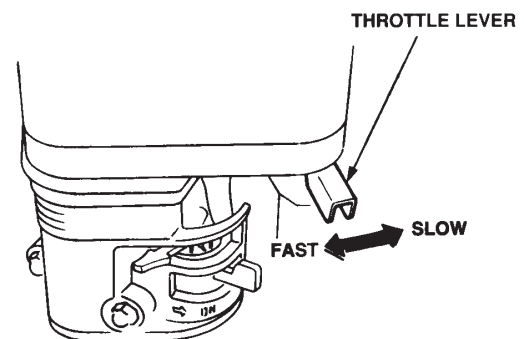

Figure 24. Throttle Lever
4. Move the throttle lever halfway between the **FAST** and **SLOW** position (Figure 24) for starting.
1. Place the throttle lever (Figure 24) in slow position, and listen for the engine speed to decrease.